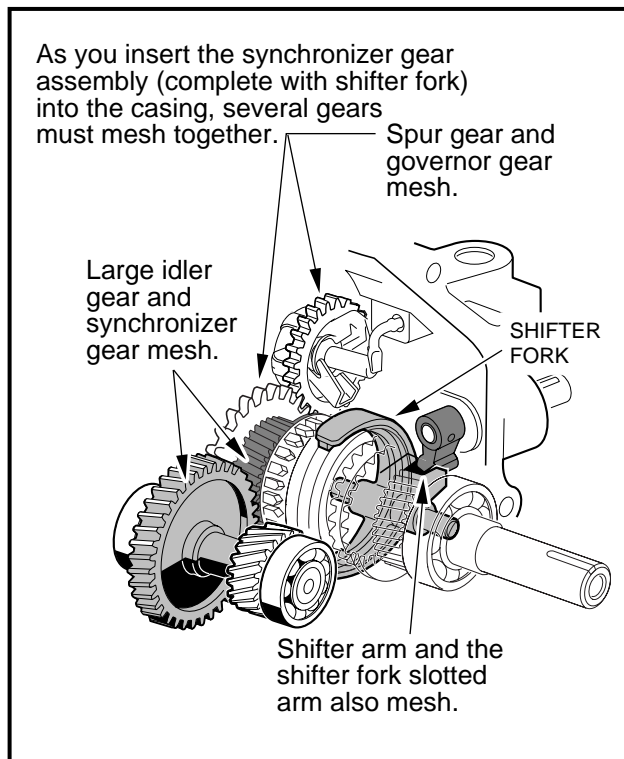

Figure 16-87 Gear Alignment
- 7.6. As a group and while keeping the gears meshed, work all of the gear assemblies into the bores until they are seated. When all of the assemblies are correctly seated, the outside edges of the input drive gear (55) and the intermediate gear (61) (**Figure 16-48, Page 16-20**) should be flush (in the same plane) as shown (**Figure 16-87, Page 16-36**). Also, the outside surfaces of the idler gear bearing, the intermediate gear bearing, and the differential gear bearing should be flush (**Figure 16-87, Page 16-36**). **See following CAUTION.**